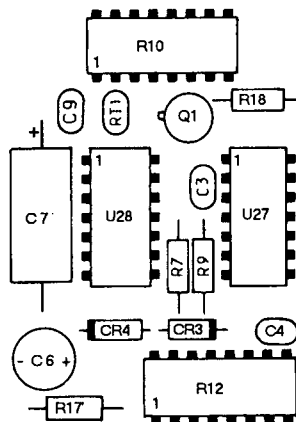

Figure B-6. 08116-66533: U28 layout
4. Figure B-6 shows the location of U28 and other additional components, modify Figure 10.7-9 accordingly.